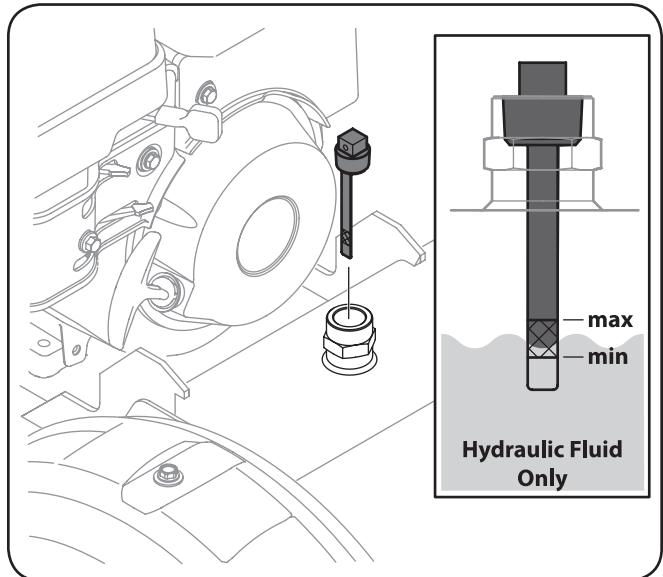

Figure 4-9
- Use a wrench to remove the vented dipstick, which is located in front of the engine on top of the reservoir tank. See Figure 4-9.
- Check the fluid level using the dipstick. See Figure 4-9. Do not overfill.